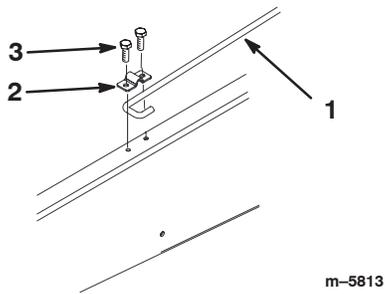

Figure 12
6. Loosen the bolt securing the prop rod clip to the frame until you can slide the J-hook end of the prop rod under the clip (Fig. 12).
- 7. Tighten the bolt and secure the other side of the clip with a new bolt (5/16 x 3/4 inch) (Fig. 12).